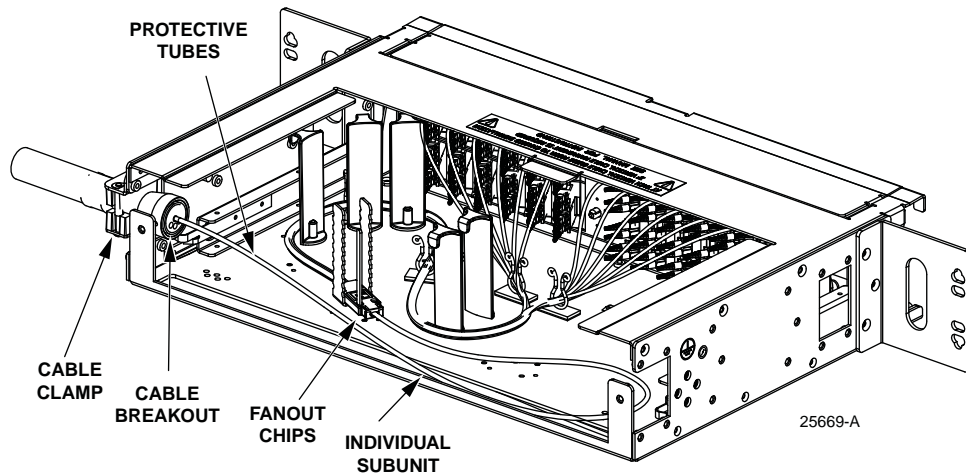

Figure 20. Typical FPX Configured with Termination Only (Rear View)
4. Route the IFC/OSP cable to the selected entry opening at the side of the panel and clamp it as shown in Figure 20. For more information, refer to Figure 3.4 on Page 14.